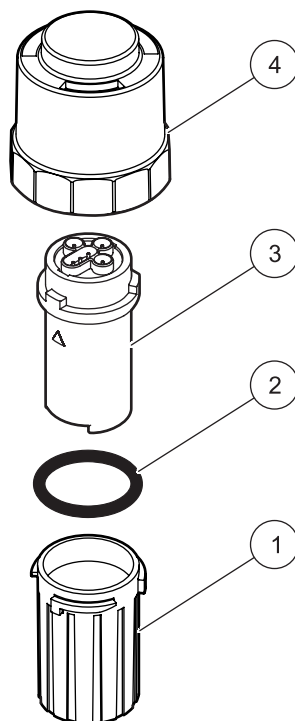

Figure 6 Storage container for sensor cartridge¹
2. Remove the cap of the storage container (see Figure 6 on page 13).